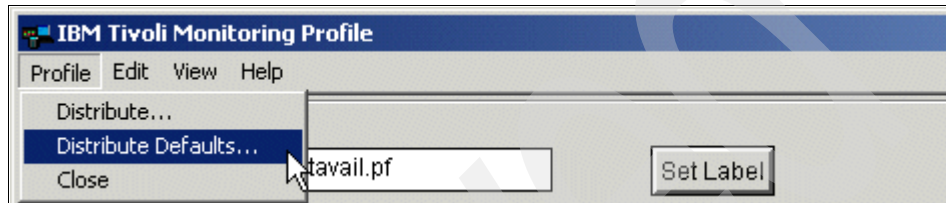

Figure 9-75 Setting distribution defaults of a Tivoli Monitoring profile
10. Select **Profile** → **Distribute Defaults...** as shown in Figure 9-75.